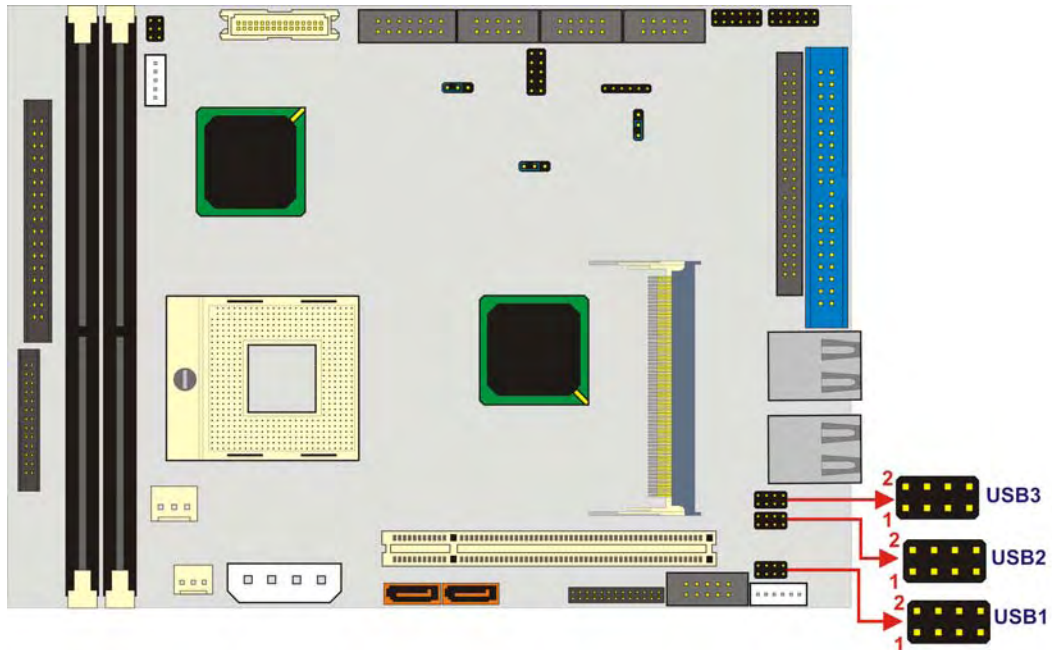

Figure 3-22: USB Connector Pinout Locations
- CN Location:** See Figure 3-22
CN Location: See Figure 3-22